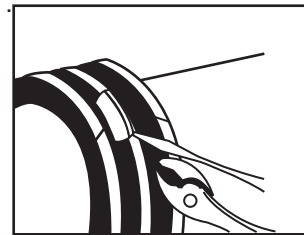

Figure 3
12. Installation of split seal. Position split seal into lower housing grooves. Position split at top of shaft. Thread tie-strap down thru large hole at one end of seal and up thru small hole on other half. With tie-head seated in the hole, draw tie across split, thru tie-head and pull tightly (Figure 3) so seal cannot rotate on shaft. Small gap should be present at split line once tight. Gap can be fixed with sealant to prevent leakage. Cut excess tie. If possible, rotate shaft slowly and position seal so it does not rub against housing grooves. At the same time apply grease to seal grooves.